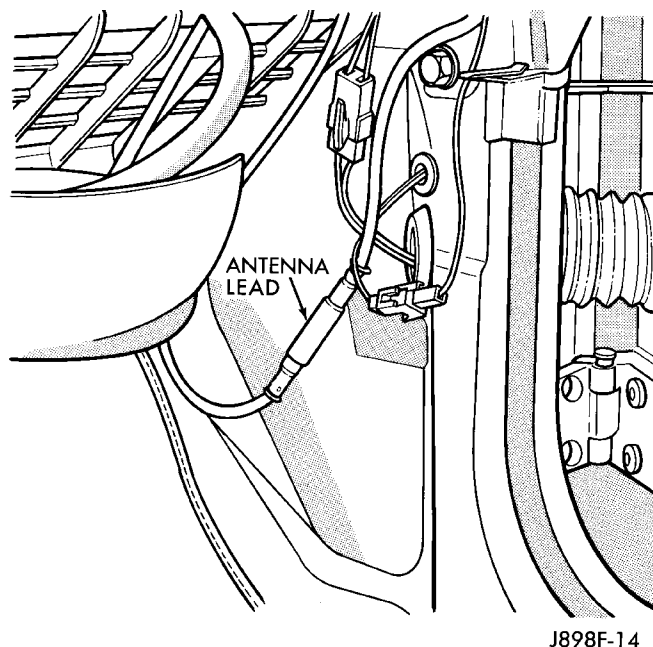

Fig. 21 Antenna Coaxial Cable Connector - Typical
(8) Remove the two screws that secure the right cowl side trim panel to the right front door opening trim.
(9) Remove the right cowl side trim panel from the right cowl side inner panel.
(10) Reach under the right end of the instrument panel to unplug the coaxial cable connector near the junction block. Unplug the connector by pulling it apart while twisting the metal connector halves (Fig. 21). Do not pull on the cable.